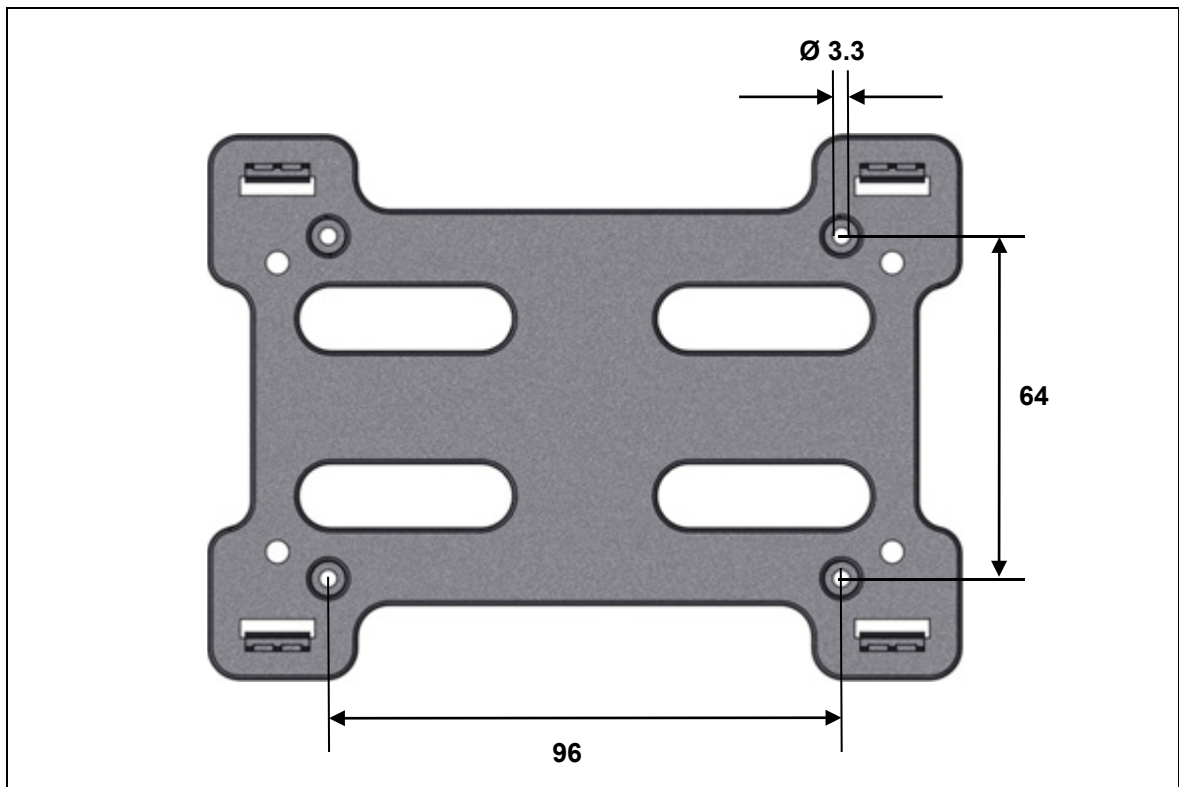
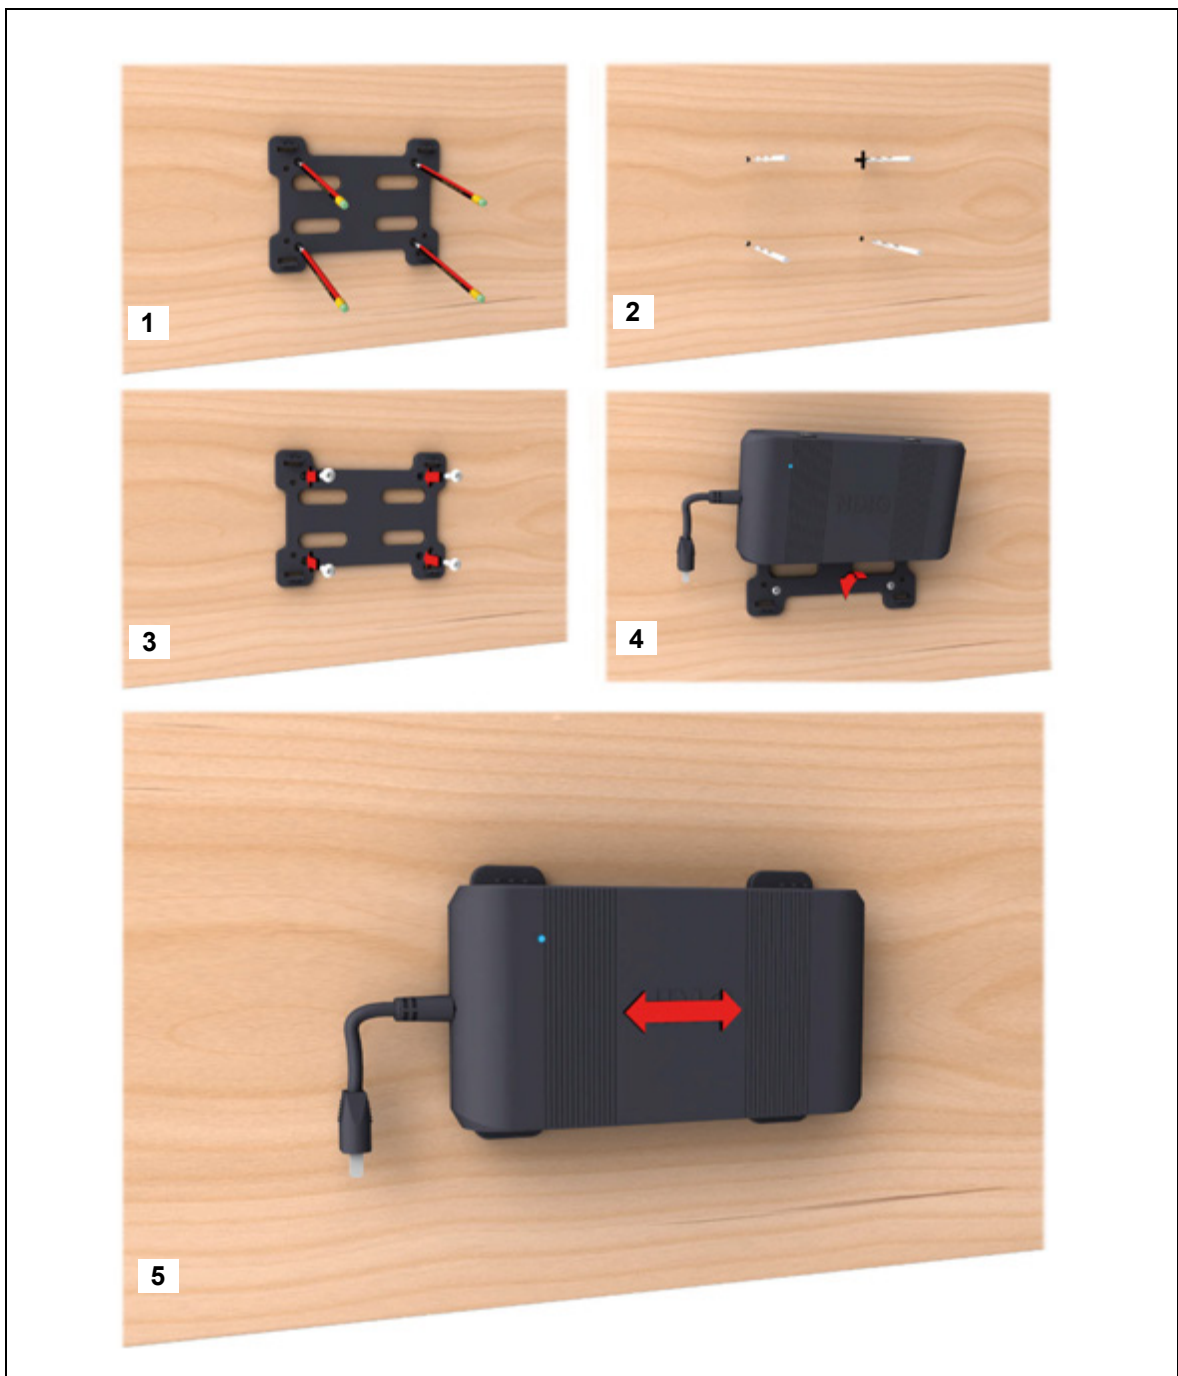

Figure 7 Drilling dimensions (example): Fastening points on the mounting plate (specifications in mm)
Figure 8 Mounting the mounting plate and attaching the CU165
- ▶ The drilling dimensions for the mounting plate, as shown in Figure 7, only illustrate an example and are not necessarily authoritative for all applications.
Screw the control unit onto the end product (as shown in Figure 8). Use the mounting holes shown in Figure 7 located on the control unit. Use screws meeting the requirements of DIN EN ISO 7049 with max. 2.9 mm diameter and of suitable length (5 mm plus the screw-in depth into the end product, screw head: 5.6 mm diameter).